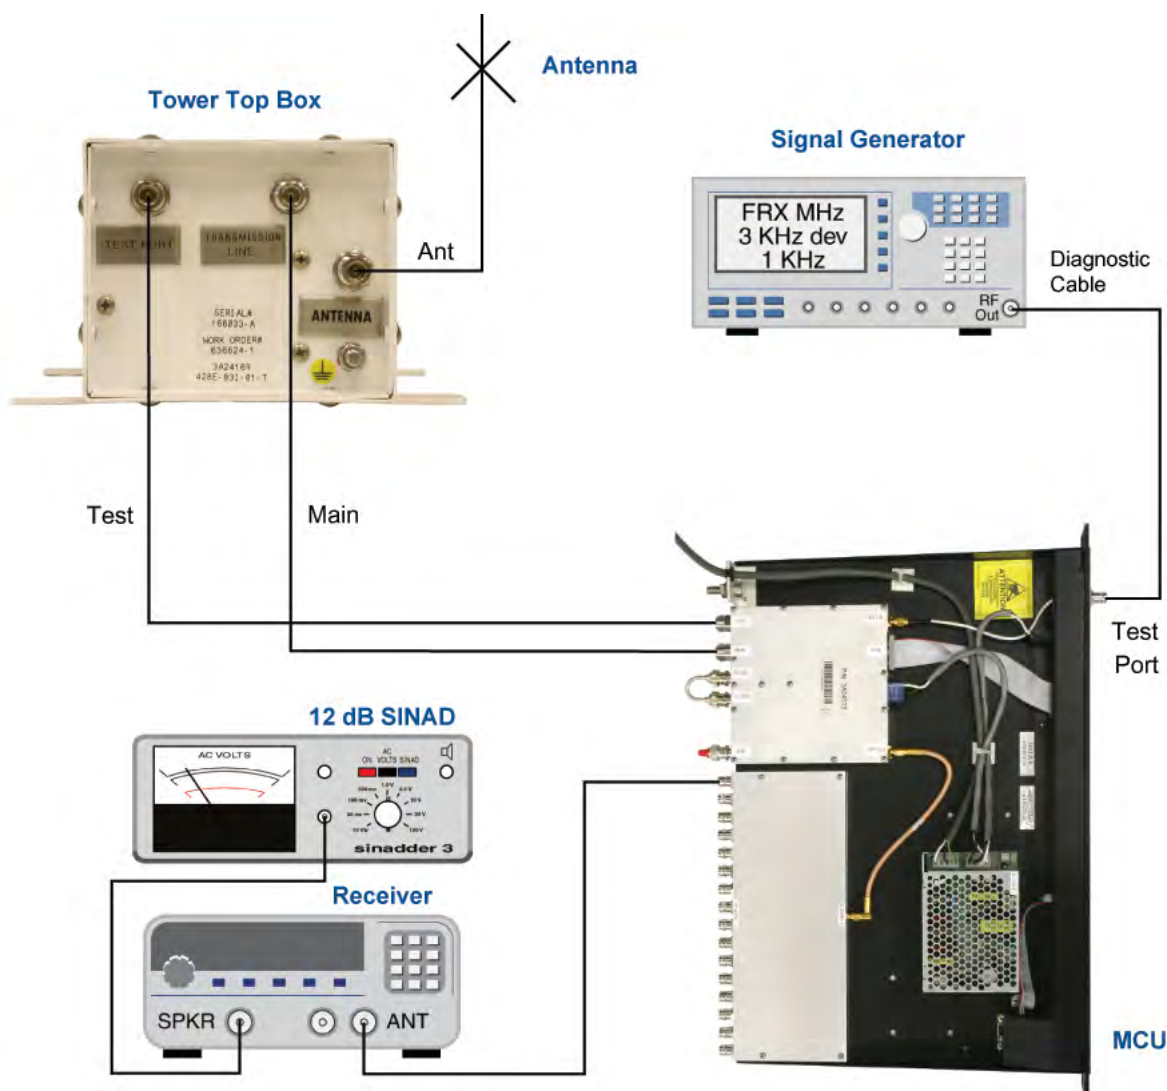

Figure 16: Using the test port to measure sensitivity.
- 3) The test receiver and SINAD meter (or bit error rate meter if appropriate) should be connected to one of the RF outputs at the rear of the base unit. Refer to **Figure 16**.